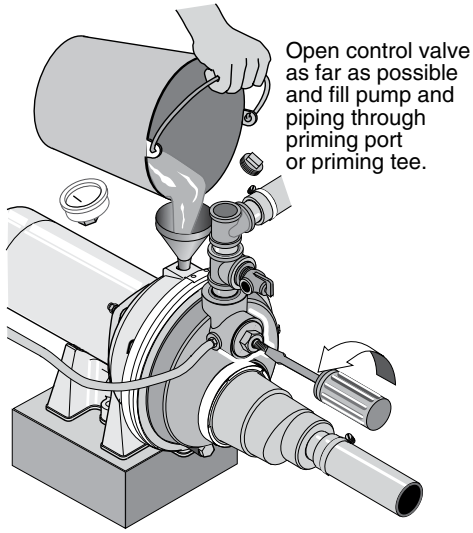

Figure 15: Open Control Valve
1. Open the control valve as far as possible (see Figure 15). Then remove the priming plug from the pump and fill the pump, fill all piping between the pump and the well, and make sure that all piping in the well is full. If you have also installed a priming tee in the suction piping, remove the plug from the tee and fill the suction piping.